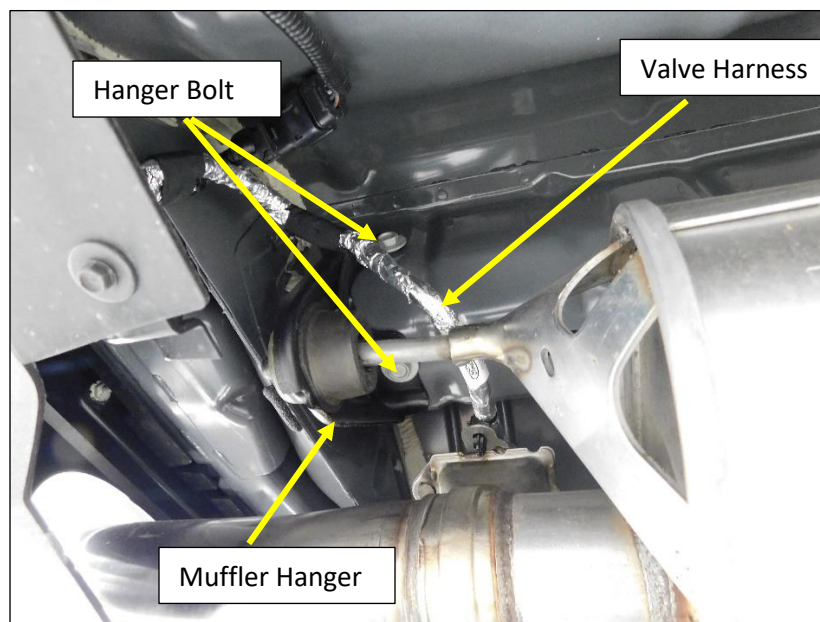

Figure 5
7. Remove the (x2) bolts from the muffler hanger mounts directly over the mufflers (**Fig. 5**).